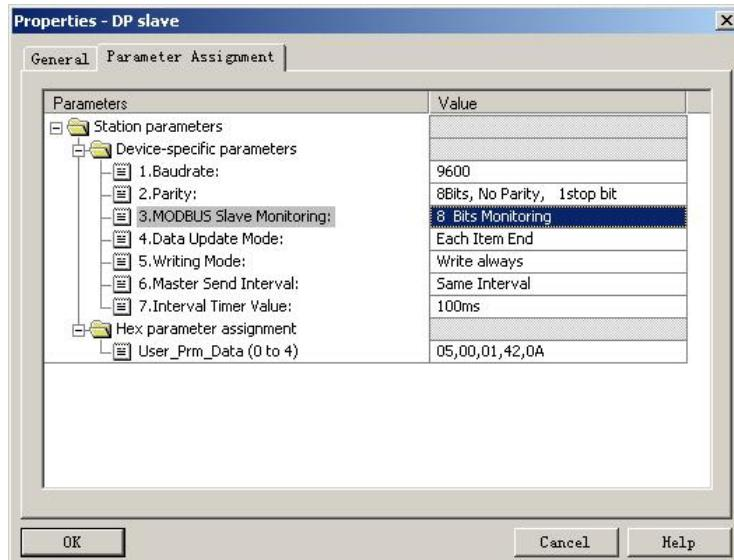

Figure 34 Configure User Parameters of “3.MODBUS Slave Monitoring” Device
- Configure user parameters of “3.MODBUS Slave Monitoring” device, shown Figure 34:**
As shown in Figure 34, to use xxx bits Modbus slave monitoring module, corresponding Modbus slave monitoring parameters shall be configured in device user parameters. Here to configure "8 Bits Monitoring", corresponding "8Bits MODBUS Slaves Status" module shall be used.